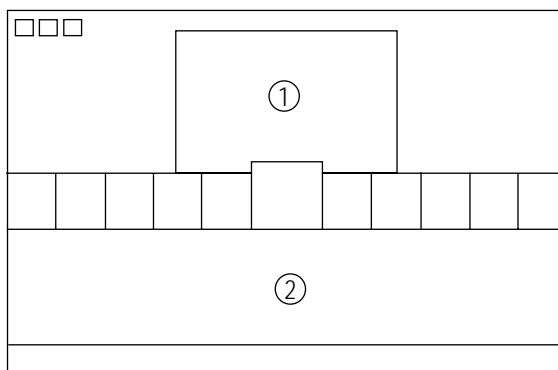

Fig. 4-4
1. Set SBT to  $2.5 \pm 0.5$  fL in the Factory Service Mode with using CA100. See Fig. 4-4 ②.
1. 50 21"flat in the Factory Service Mode with using CA100. See Fig.4-4 ① .